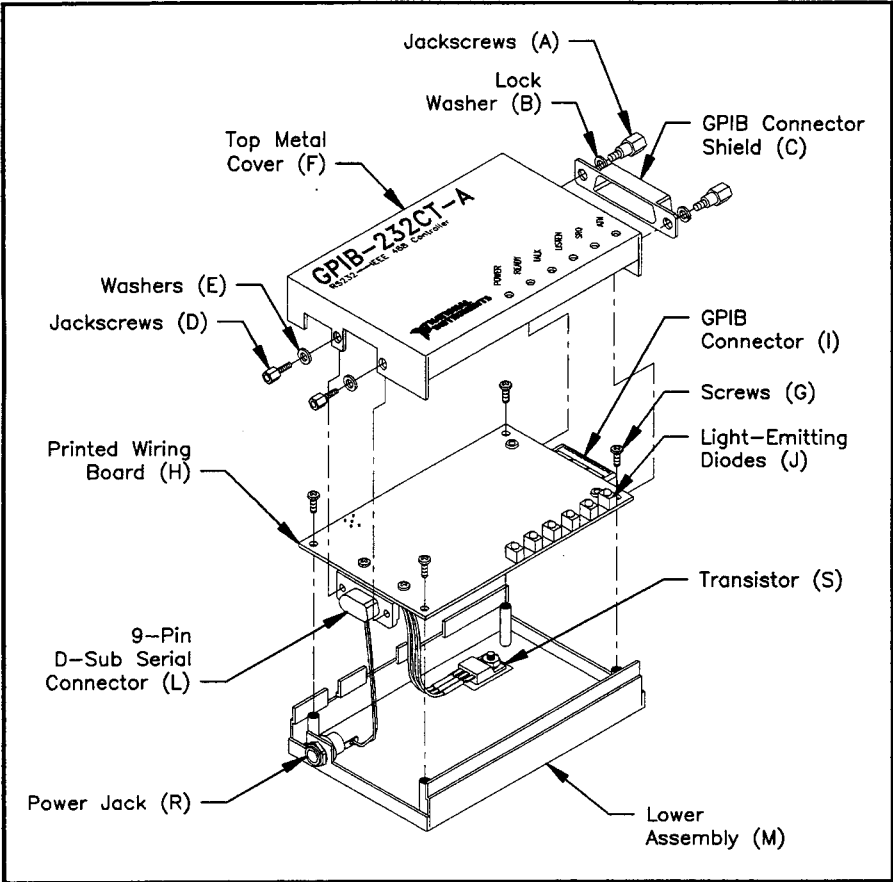

Figure 2. GPIB-232CT-A Assembly (DC Version)
This section describes the disassembly of the DC version of the GPIB-232CT-A. Refer to Figure 2 and complete the following steps to disassemble the GPIB-232CT-A.
2. Using a 1/4 in. nutdriver or pliers, remove the jackscrews (A), the lock washers (B), and the GPIB connector shield (C) from the GPIB connector (I).
3. Using a 3/16 in. nutdriver or pliers, remove the jackscrews (D) and the washers (E) from the 9-Pin D-Sub serial connector (L).
4. Lift the metal cover (F) from the lower assembly (M) of the GPIB-232CT-A.
5. Remove the four screws (G) that hold down the printed wiring board (H) at each corner with the screwdriver.
**Warning:** *Straining the power wires that connect the printed wiring board (H) to the DC power jack (R) and the transistor (S) can damage your GPIB-232CT-A. Do not strain these wires when changing the EPROM (O). Be sure to support the printed wiring board to reduce strain on the power wires (Refer to Figure 2).*
6. Lift the printed wiring board (H) from the lower assembly (M).
Figure 2 shows the location of the parts you need to disassemble the DC version of the GPIB-232CT-A.